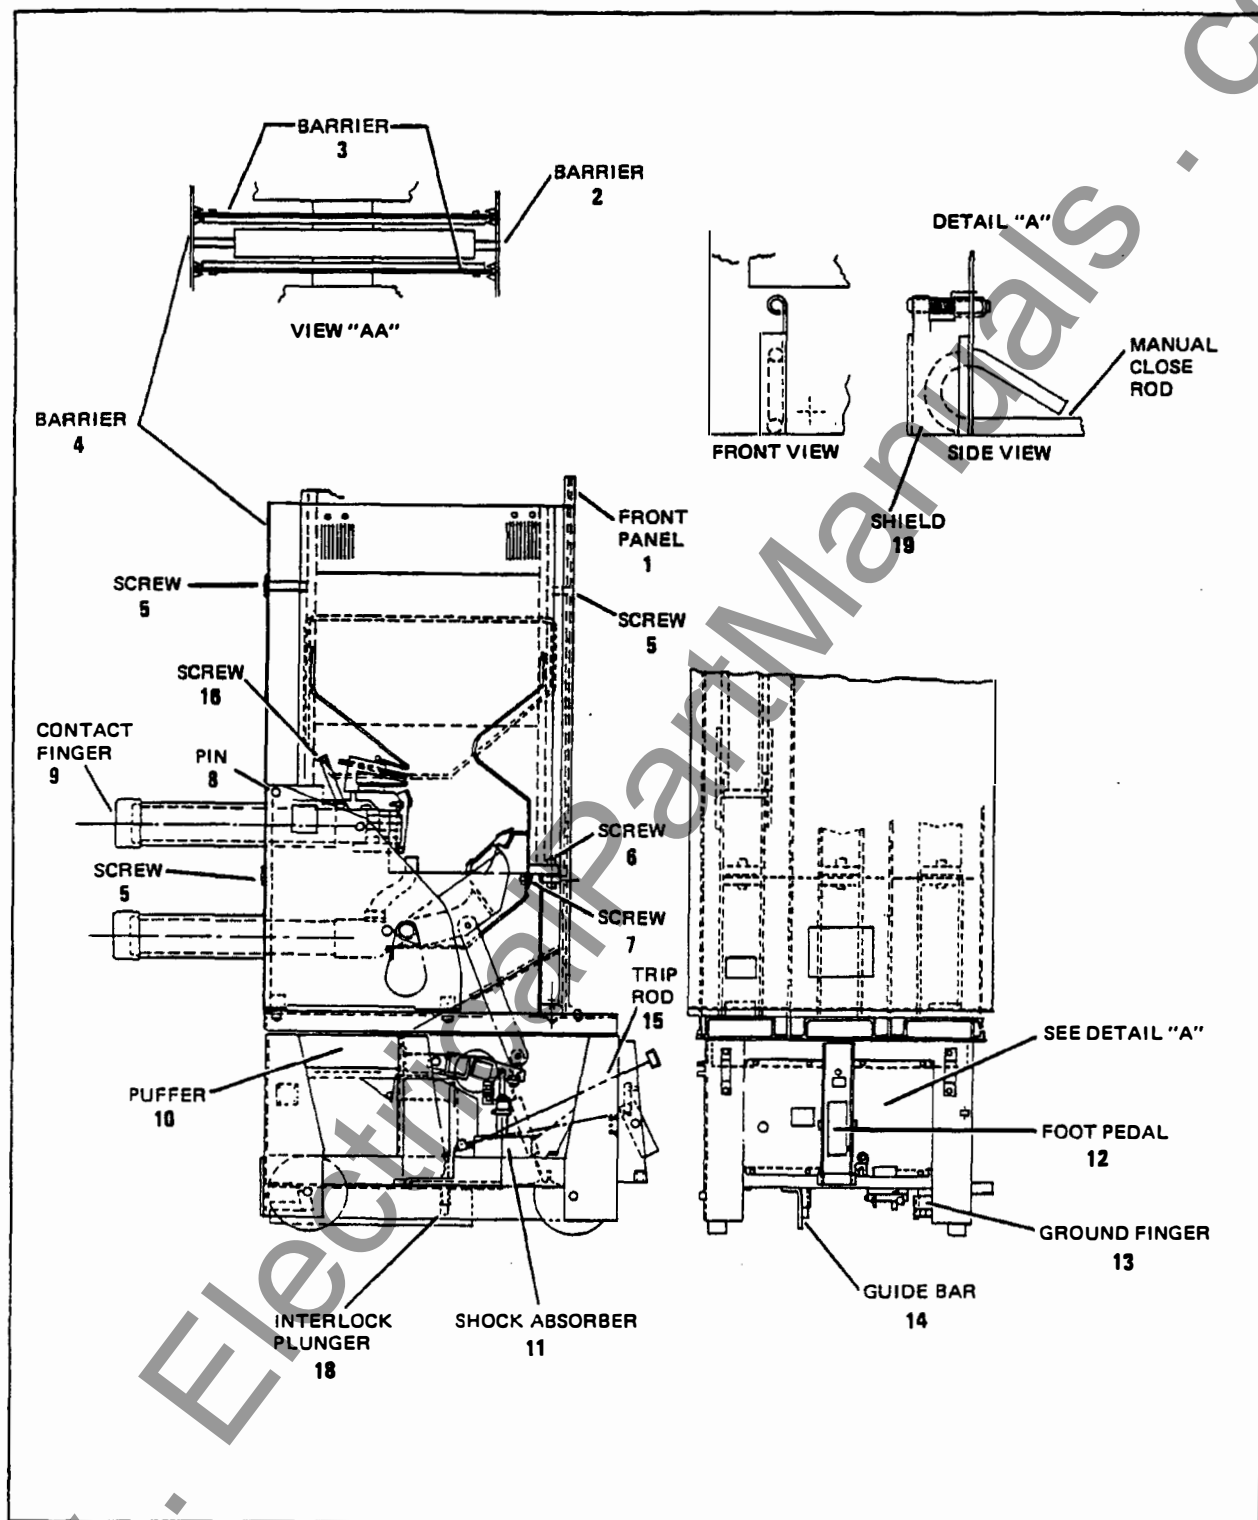

Figure 2. Typical Circuit Breaker Assembly FC-1000B
7. Trip breaker by depressing trip rod (Figure 2, Item 15).